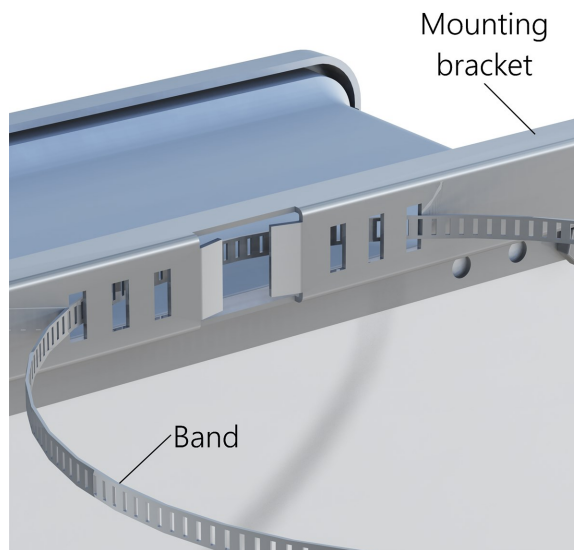

FIGURE 6-19. Inserting the metal band
2. Feed a metal band through the openings in each bracket as shown in FIGURE 6-19 (p. 23). Use the closest set of holes for smaller poles and the farthest set of holes for larger poles.